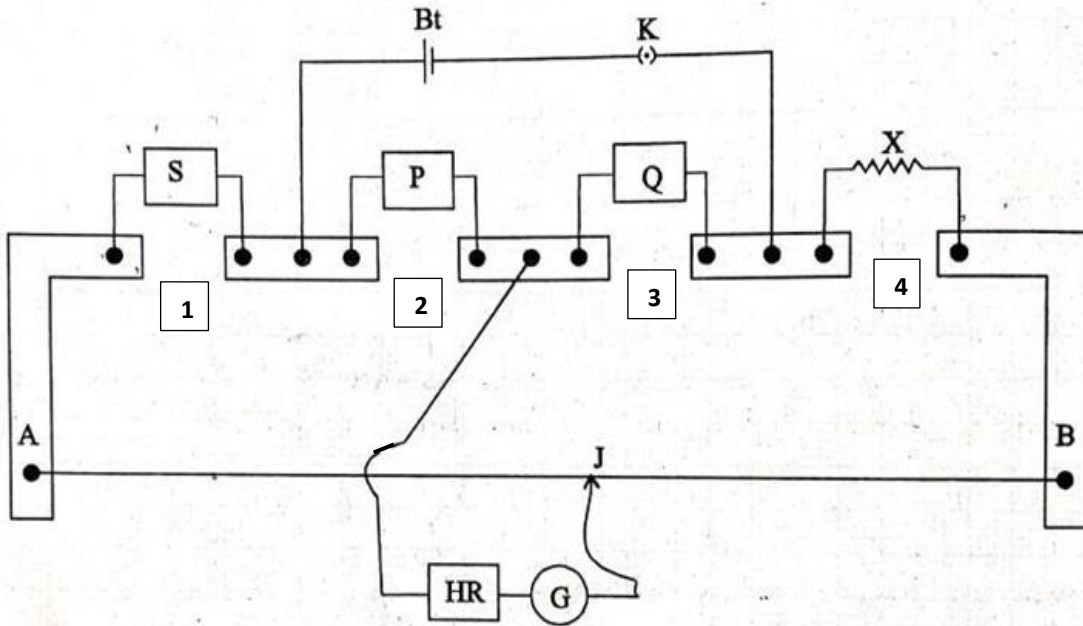

Figure 2.1 Experimental setup for Carey Foster Bridge
- The circuit connections are as shown in the Figure. 2.1 the two equal resistance P and Q are connected in the inner gaps 2 and 3. A known low resistance S is connected in the gap 4.
- The unknown resistance is connected to the in the gap 1. A battery and a galvanometer are connected as shown in the Figure. 2.1 the circuit is closed by a key.